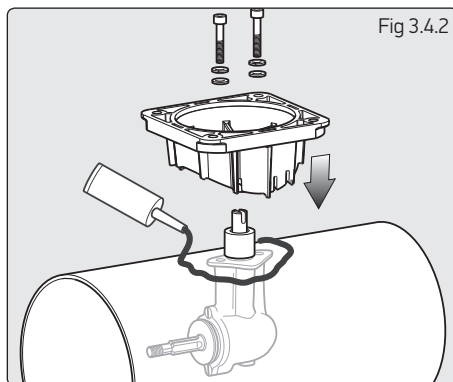

Fig 3.4.2
NOTE: Poor exterior tunnel surface could cause leakage and noise. Apply sealant to this area as required (Fig. 3.4.2).
- Apply zinc chromate paste or marine grease to location bore and assemble saddle onto hub (SikaFlex® or similar maybe used to seal saddle in place). Apply Blue Loctite® 243 to bolts and hand tighten along with supplied washers (Fig. 3.4.2).